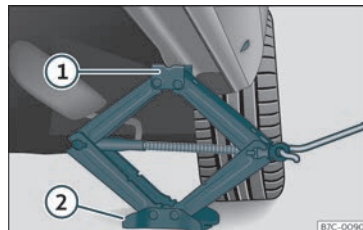

Fig. 43 Cross member: positioning the jack on the vehicle.
- Turn the jack* crank handle, located below the strut support point, to raise it until the tab  >>> Fig. 43 is below the housing provided.